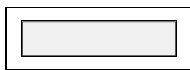

Fig. 28
3. Fill the mix pan with chilled, properly mixed product. Keep the mix level in the mix pan at least one inch (25 mm) deep at all times to avoid starving the freezing cylinder. A **MIXOUT** light (Fig. 28) located on the front of the machine is activated when the mix solution drops to a potentially damaging level.
“CLEANOUT” Position: The dasher motor operates continuously and the compressor will not come on. The mix out level sensor will turn on the “**MIXOUT**” light (Fig. 28) but will not activate the beeper.